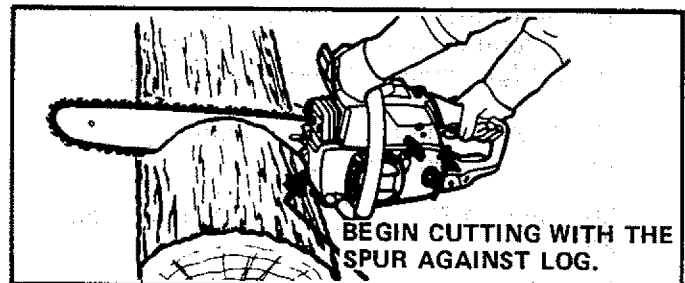

Figure 26
- Begin cutting with the spur against the log.** Figure 26.